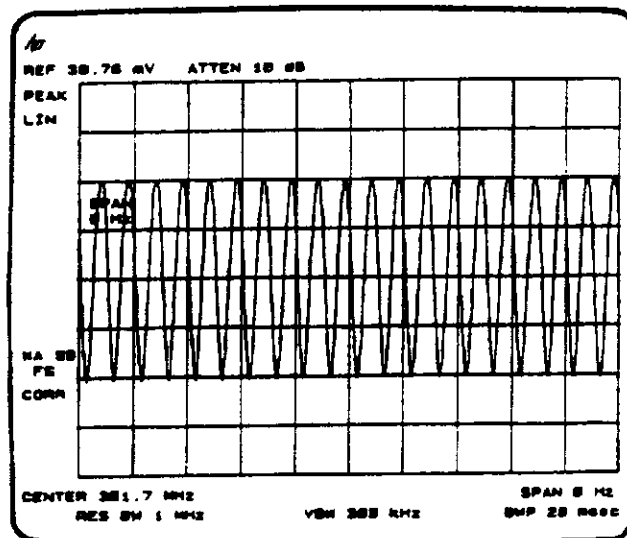

Figure 2-17
5. To select zero span, press **[SPAN]**, **[0]**, **[Hz]**. See Figure 2-17. If the modulation is a steady tone (for example, from a signal generator), use video trigger to trigger on waveform and stabilize the display. Adjust the sweep-time to change the horizontal scale. Use markers and delta to measure time parameters of the waveform.